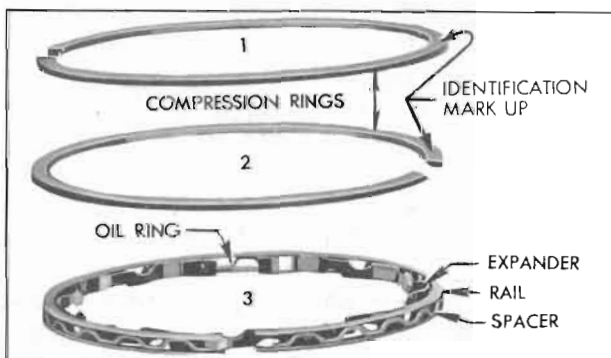

Figure 2-37—Compression and Oil Rings
7. Install compression rings in first and second lands of each piston. 364 engine compression rings are identical and are assembled with inner bevel toward bottom of piston. 401 engine top rings are assembled with inner bevel toward top of piston and second ring inner bevel toward bottom of piston. See figure 2-37.